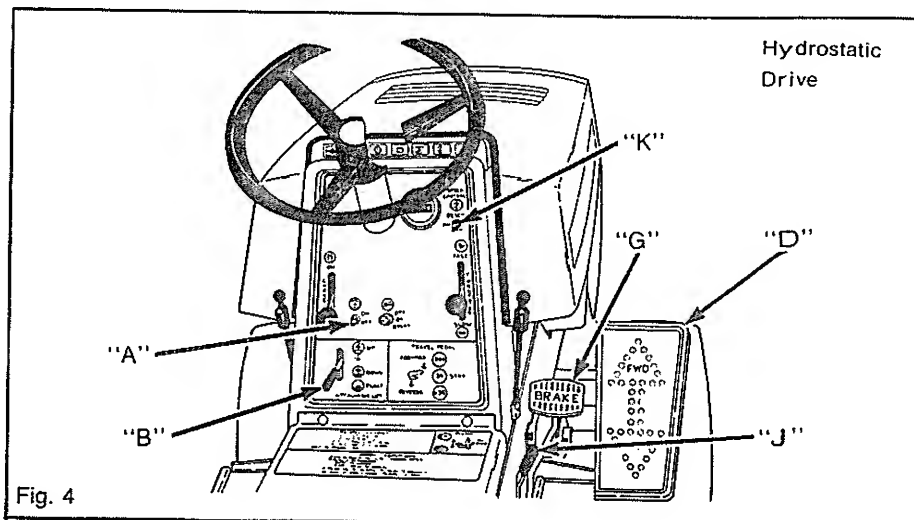

Fig. 4
Move PTO drive switch (A), Figures 4 and 5, lever to ON to engage PTO drive clutch. Move PTO drive switch lever to OFF to disengage PTO drive.
The attachment lift (B), Figure 4, can be maneuvered while vehicle is at rest or in motion. Lift lever to raise attachments
The travel (control) pedal (D) Figure 4 is generally used for dynamic braking while moving. To slow down or stop the tractor while it is in forward motion, gradually apply pressure to the travel control pedal with heel of right foot until tractor comes to a full stop. To slow down or stop the tractor while it is in reverse motion, apply pressure to travel control pedal with toe of right foot until tractor comes to a full stop.
With the unit running and desired speed selected, activate the cruise clutch by pressing the "RESET" end of switch (K), Figure 4.
Depress brake pedal (G) Fig. 4 or clutch/brake pedal (H) Fig. 5 to apply the brakes. To place in park, depress foot pedal to fully apply the brakes, hold pedal in this